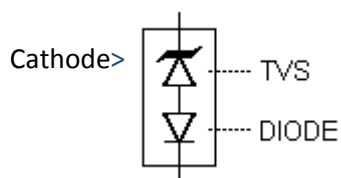

FIGURE 4
The TVS low capacitance device configuration described in this data sheet is shown in Figure 4 involving a TVS and a unique diode in series and opposite direction. For bidirectional low capacitance TVS applications, use two (2) low capacitance TVS devices as described in this data sheet in anti-parallel as shown in Figure 5. This will result in twice the capacitance of Figure 4 specified in this data sheet.